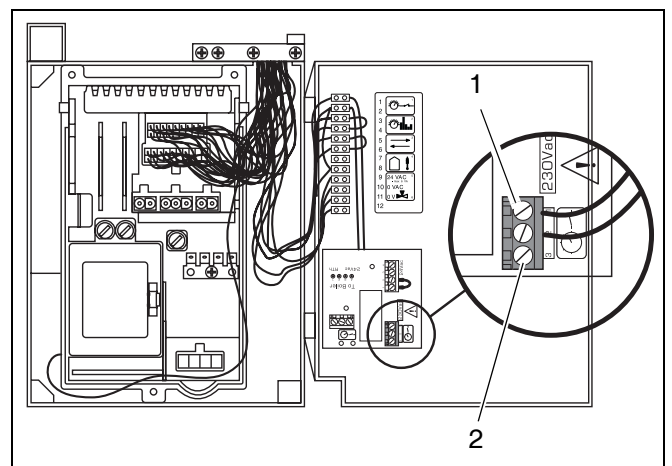

Fig. 20 Connection box in burner-control unit - 230V connection
- A room-temperature control device at 230V connected to the connection plate (fig. 20, item 1).
- Connect the switch live to terminal "1" and a neutral to terminal "2" (fig. 20, item 1).
Terminal 3 (fig. 20, item 2) is not used.